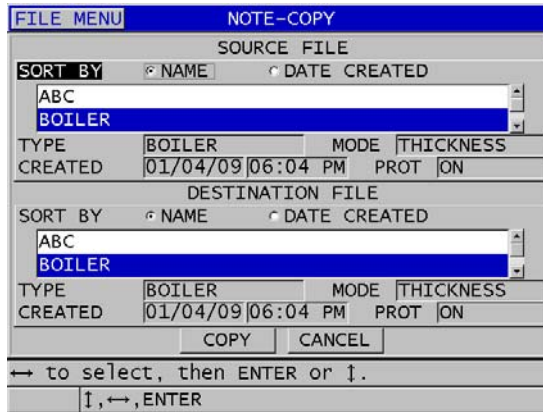

Figure 11-25 Copying a note table from one file to another
3. In the **NOTE-COPY** screen (see Figure 11-25 on page 196):